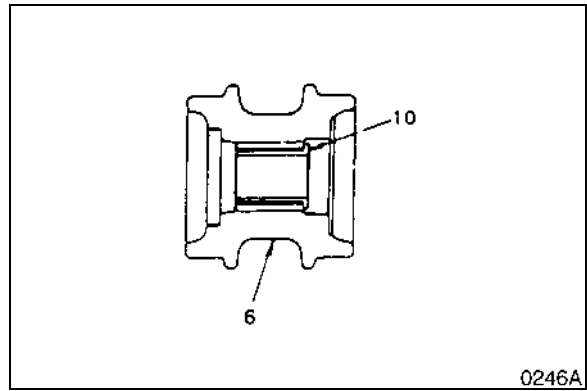

Figure 46
1. Degrease, clean and dry all parts before reassembly. Insert bushing (10, Figure 46) into the roller (6).